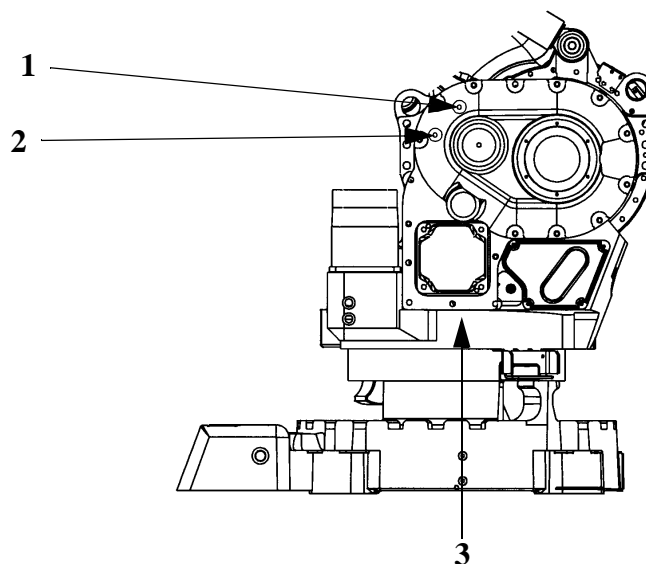

Figure 5 Drain holes, axes 2 and 3.
- Remove the air (1) and drain (3) plugs. See Figure 5.
- Drain off the old oil through the hole (3).
- Refit the drain plug (3).
- Fill up with new oil until the oil level reaches the lower edge of the filling hole (2). See Volume below.